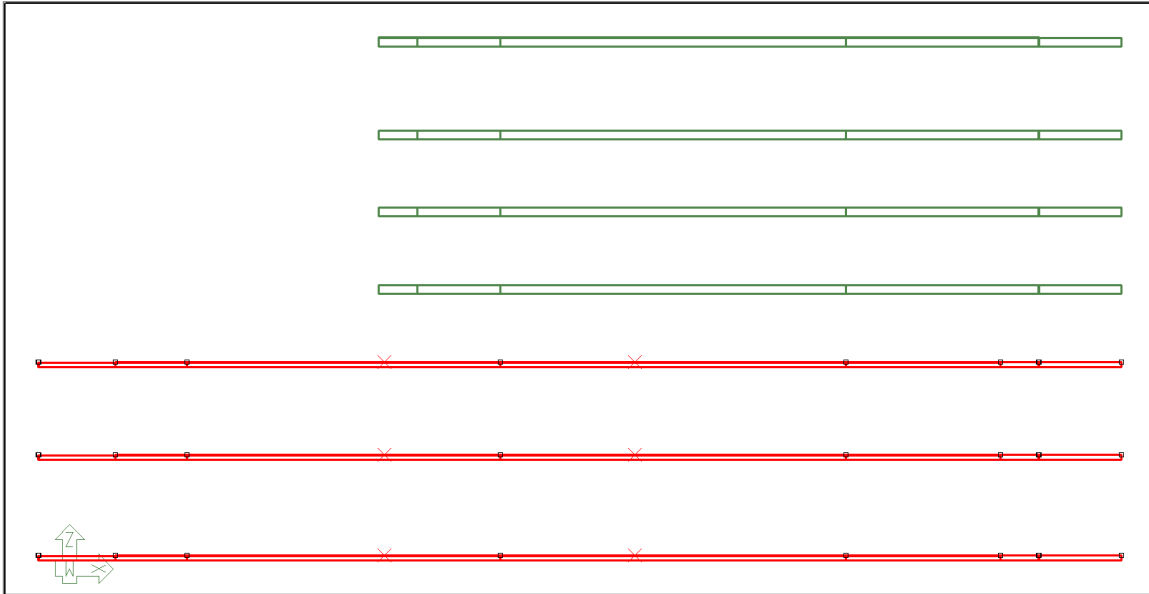

FIGURE 8-14
- Drag and select the Level 1 through Level 3 slabs. Once the slabs are selected, they will be highlighted in a red color as shown in **FIGURE 8-14**.